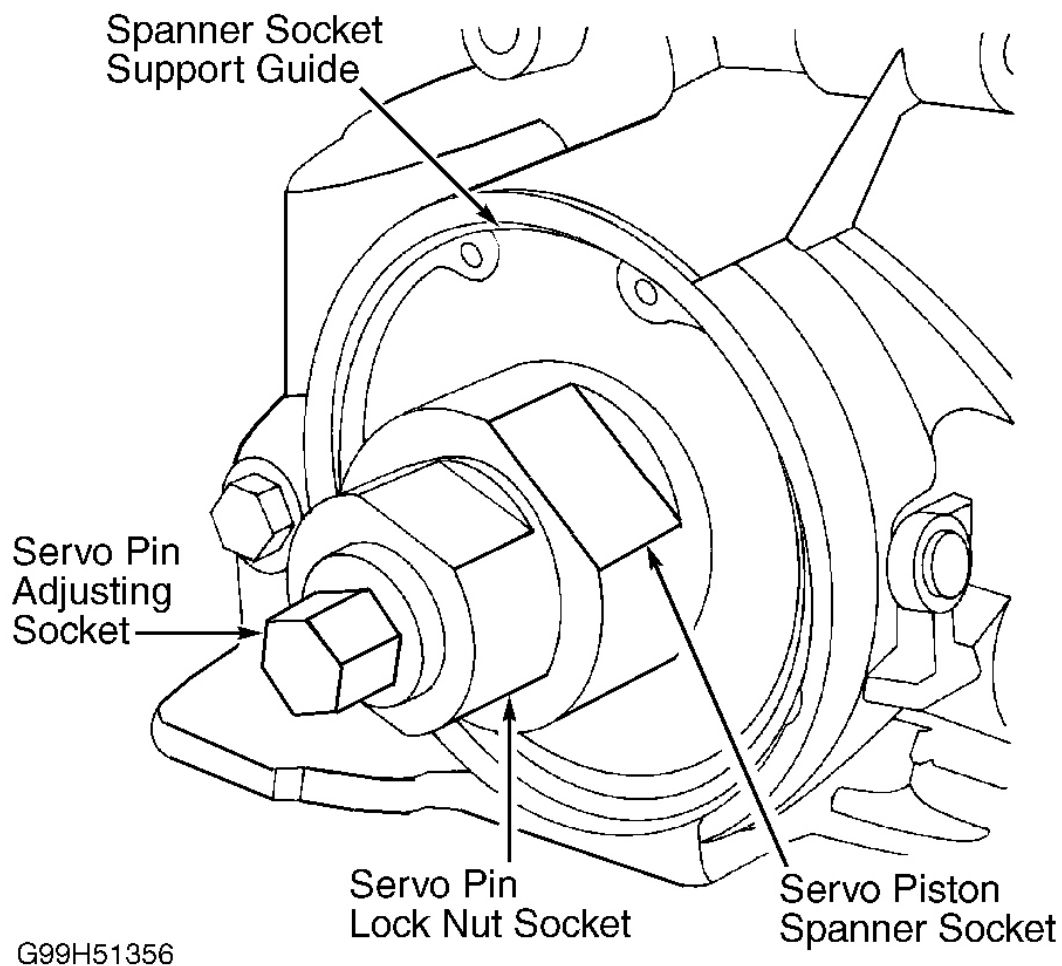

Fig. 7: KM Band Adjusting Tool Installation
4. Insert the Servo Pin Lock Nut Socket into the Servo Piston Spanner Socket. Turn the socket by hand until it has engaged the lock nut. Insert the Servo Pin Adjusting Socket into the Servo Pin Lock Nut Socket and rotate by hand until it engages the servo pin. See **Fig. 7**.